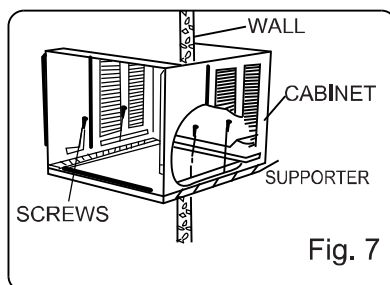

Fig. 7
3. Remove shipping pad from around compressor before operation and make sure the discharge points to the drain pan are aligned before the chassis is pushed into the cabinet (See Fig.7).